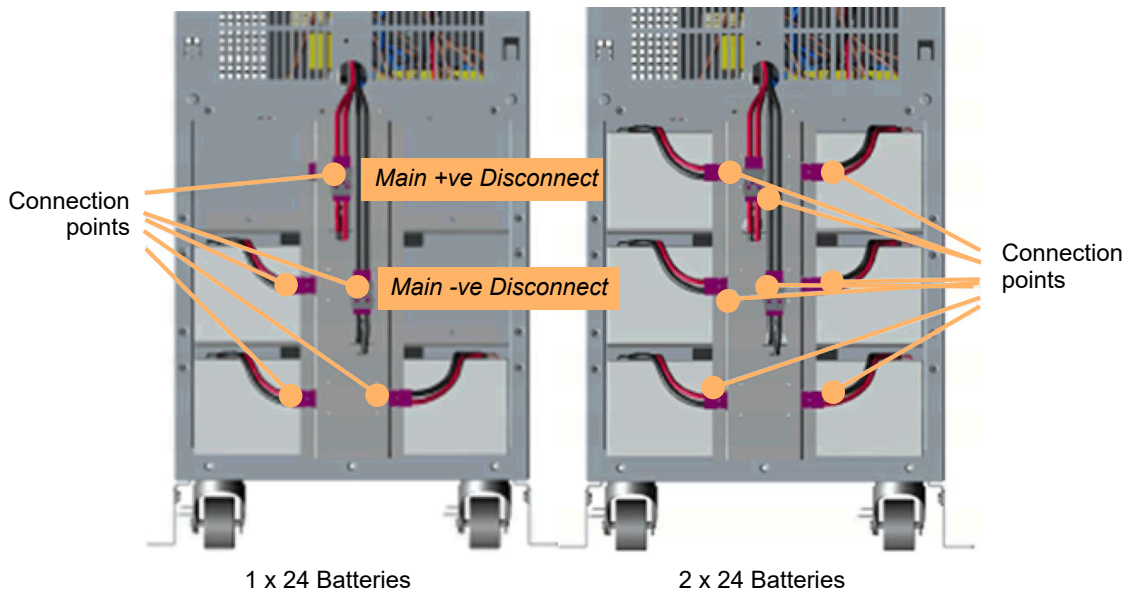

Figure 3.12 UPS Cabinet internal batteries
1. Disconnect the UPS internal batteries at the '*Main + Disconnect*' and '*Main – Disconnect*' points shown in Figure 3.12.